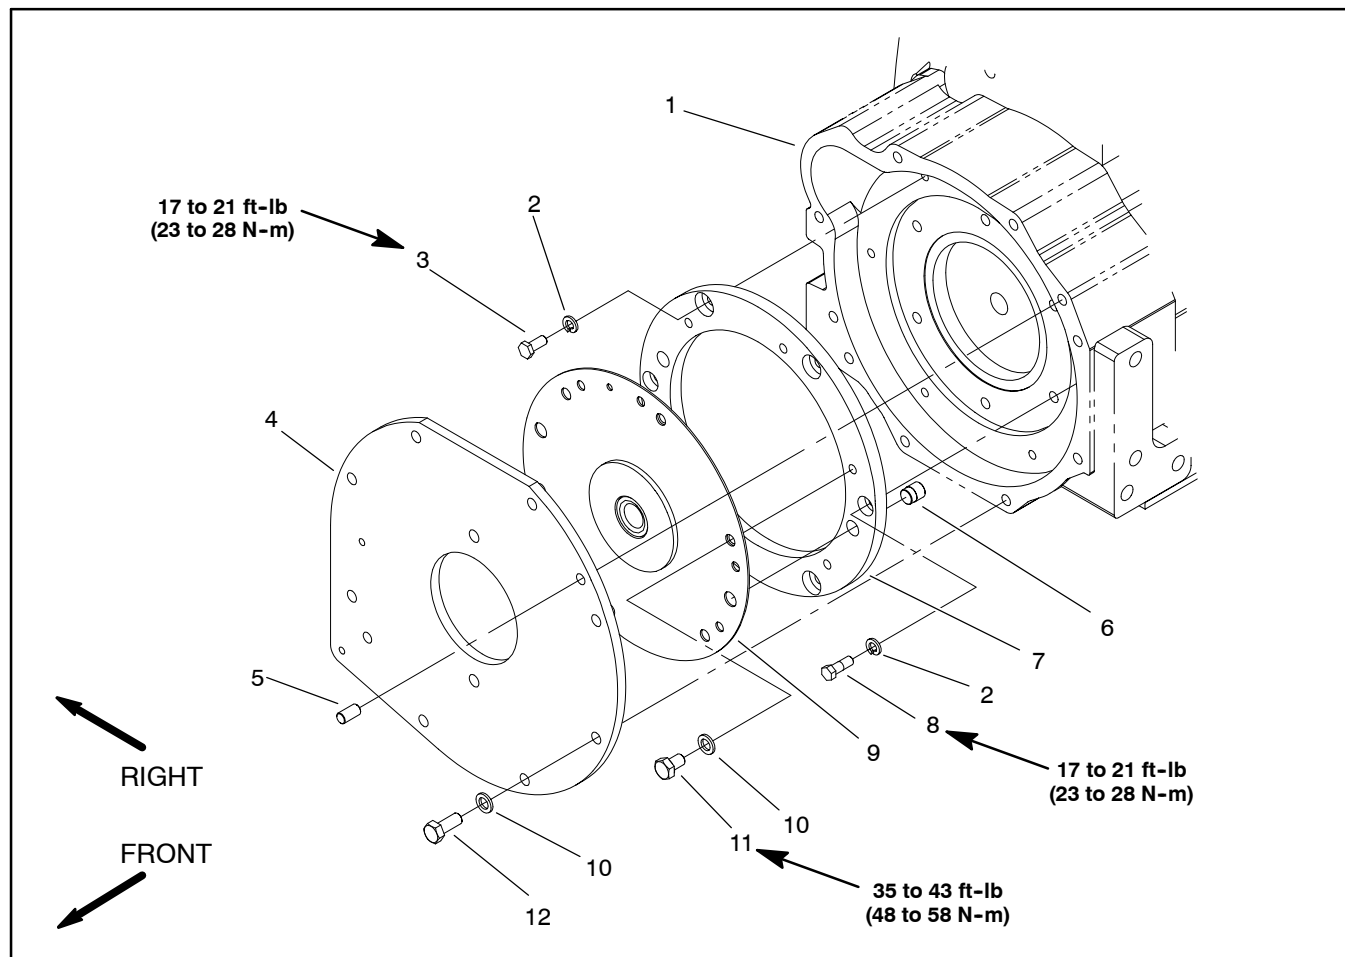

Figure 18
2. Remove pump adapter plate, spring center coupling, and coupling spacer from engine using Figure 18 as a guide.